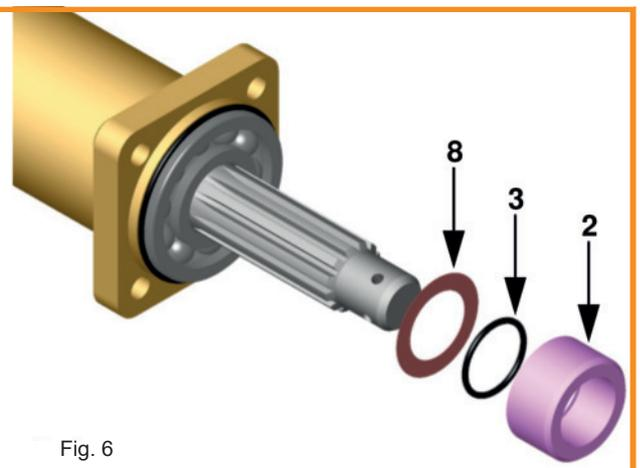

Fig. 6
- Slip the shim (Pos.8, Fig.1), the O-ring (Pos.3, Fig.1) and the spacer (Pos.2, Fig.1) on the axle shaft as shown in the picture Fig.6.